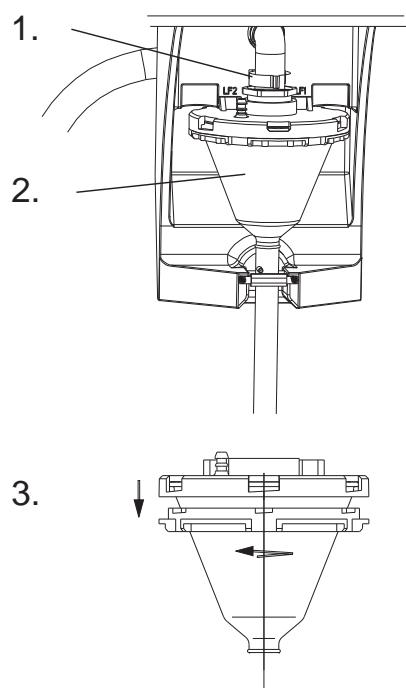

Fig. 50: Cleaning the dosing unit
1. Dosing glass: install as described in Fig. 50: "Cleaning the dosing unit".